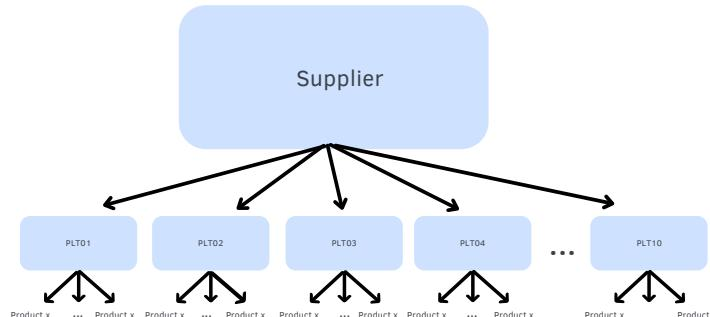

Fig. 2: Product Hierarchy
- Firstly, the *Product Hierarchy*. As we can see in Figure 2, we are relating the *Supplier*, the factories each supplier provides the product, and the *Product* itself.